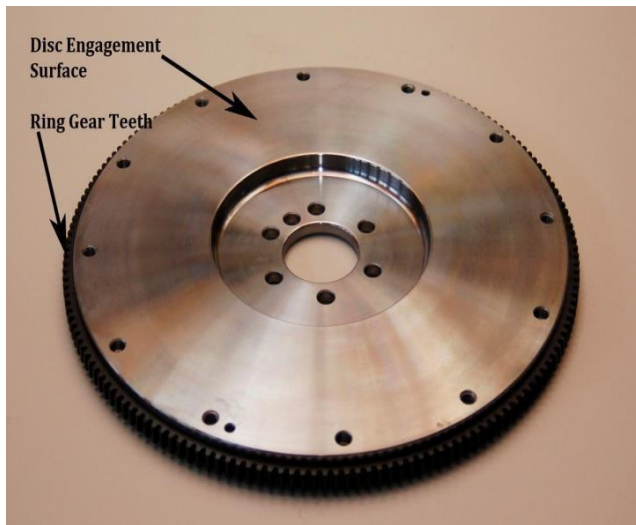

Figure 3
- 4) Inspect flywheel for chipped teeth on the ring gear and be certain the flywheel/disc engagement surface is clean, flat and free of oil and/or grease. Be certain the pilot bearing is in place and is clean and free of nicks and burrs. If damaged, replace the pilot bearing. Test fit the pilot tool to see how far the tool engages the pilot bearing. See Figure 3.